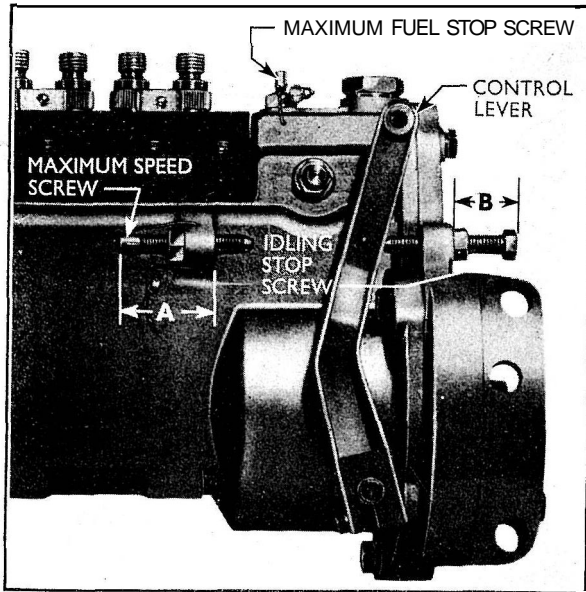

Fig. 67
15. Position the idling and maximum speed stop screws to the approximate dimensions shown in Fig. 67 (A=1½ in., 38 mm. B=¾ in., 21 mm.). Rotate the cross-shaft forward to take up all free play then locate the governor control lever on the serrated end of the cross-shaft so that its rear face just contacts the idling speed stop screw. Tighten the clamp bolt to secure the lever to the cross-shaft and replace the snap ring on the cross-shaft.